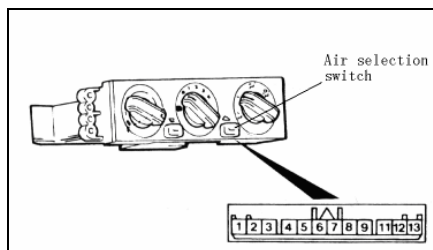

Fig 21-22
2. Continuity Inspection of air selection switch(see fig 21-22、 table 21-13)